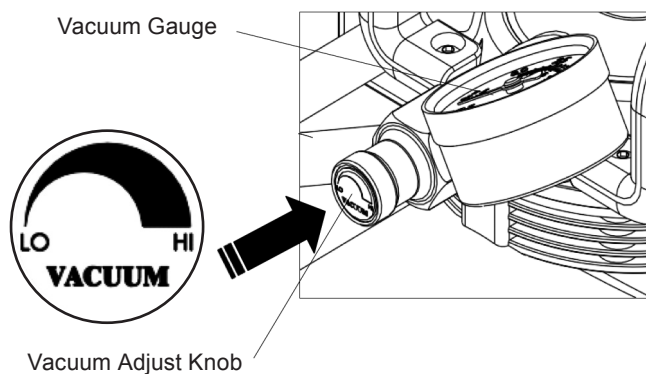

Figure 4
5. Adjust the suction level from 0 to 560 mmHg by turning the vacuum adjustment knob clockwise to increase and counterclockwise to decrease (Figure 4). It is recommended to test the pressure before using the device on a patient. Simply block the end of the patient hose or block the Suction Canister lid intake and allow the gauge to reach a stable vacuum reading.